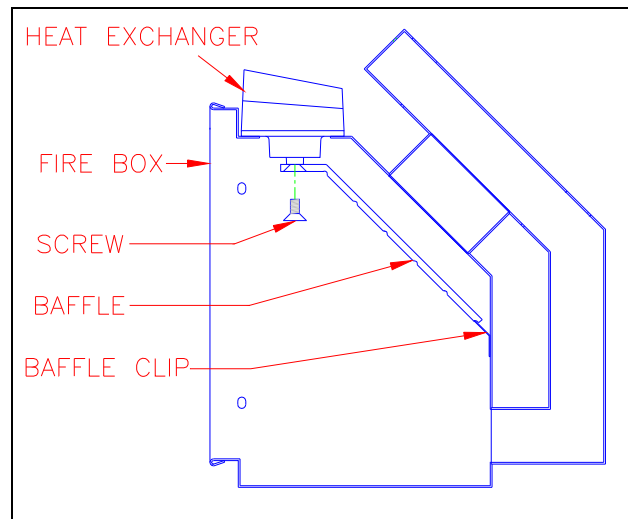
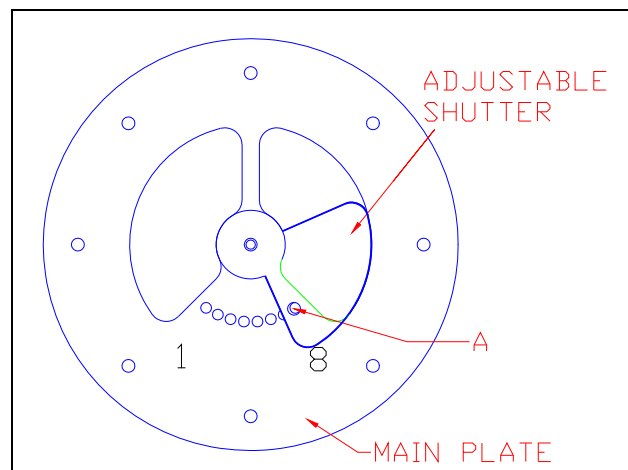
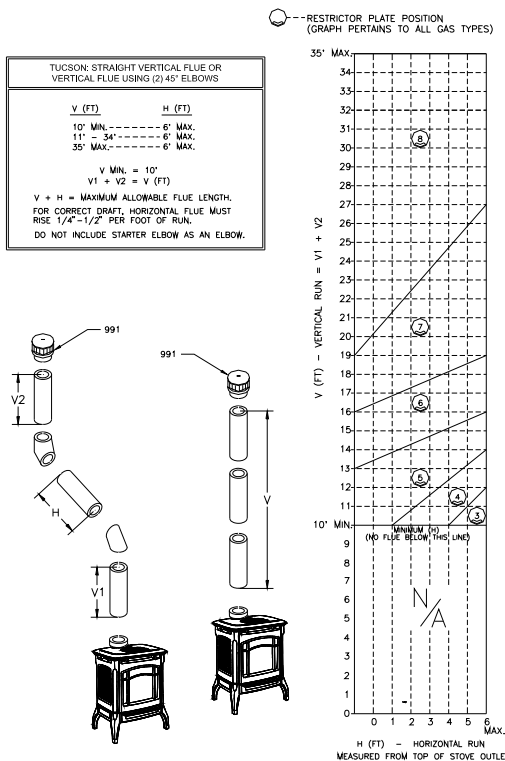
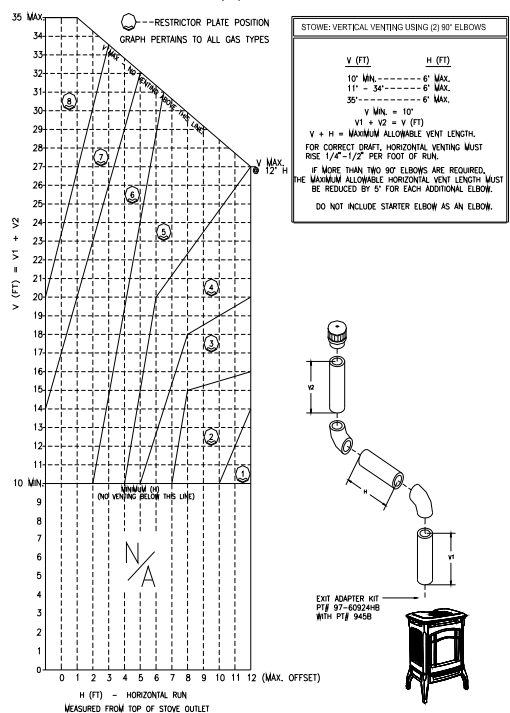

Figure 8: Baffle Removal
Figure 9: Restriction Plate Adjustments
Figure 12: Vertical Terminations Using Straight Pipe
Figure 13: Vertical Terminations Using (2) 90° Elbows
The restriction plate is used to control the draft of the heater. Controlling the draft also changes the aesthetics of the flame. The restriction plate has eight settings, one (1) being the lowest and eight (8) being the highest. For a fast moving flame with lots of action, use a low setting. For a slow, lazy flame, a high setting should be used. See *Figure 9* for instructions on how to adjust the restriction plate settings.
A vent restriction plate is available for the appliance to adjust the flow rate of exhaust gases. This insures proper flames for the wide variety of vent configurations, and efficiency. The restriction plate consists of a rotating shutter below the starter section of pipe and an adjustment plate with index holes used to hold the shutter in a fixed position. Depending on the vent configuration, you may be required to adjust the restriction plate position. Refer to *figures 12 - 15* for positioning of the restriction plate.
Remove the log set before adjusting the restriction plate by following the log set removal instructions on page 26. Make sure the unit is cool before touching any part of the firebox and log set. Remove the exhaust baffle by removing the one screw in the center of the baffle (*refer to Figure 8*). The baffle will come out once the screw is removed. *Be careful not to drop the baffle on the pan burner.* Once the baffle is set aside, check the restriction plate screw location. There are eight locations that the restriction plate can be positioned. (Refer to Venting Configuration – *Figures 12 – 15* for recommended restriction plate positions) (Refer to *Figure 9* for proper adjustment plate index location) 'A' in *Figure 9* shows the locating screw that determines the position of the plate.
*With No Elbows or (2) 45° Offsets (Figure 12), and (2) 90° Elbows (Figure 13)
- 🔥 6' maximum offset (refer to Figure 12)
- 🔥 12' maximum offset (refer to Figure 13)
- 🔥 The termination must fall within the outline shown in Figures 12 & 13. Use the indicated restriction plate position. The restriction Plate part # is 9590-922.